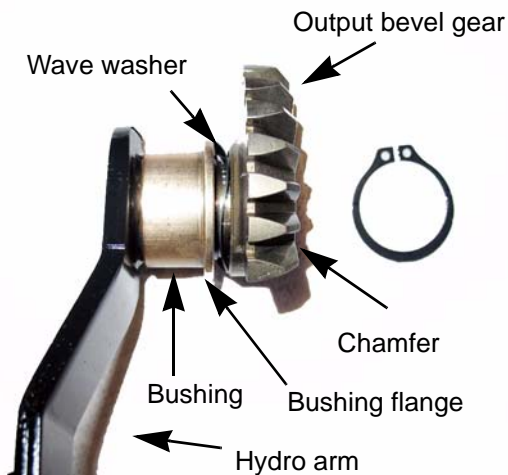

Figure 6.52
- 10a. Place a bushing over the hydro arm with the flange facing away from the arm. See Figure 6.52.
- 10b. Place the wave washer over the hydro arm. See Figure 6.52.
- 10c. Place the output bevel gear on the hydro arm with the chamfer facing away from the hydro arm. See Figure 6.52.